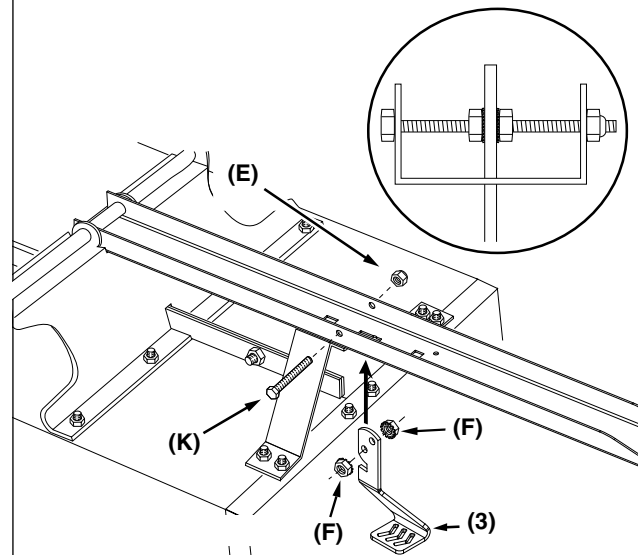

Figure 13
STEP 13 (SEE FIGURE 13): Install the foot pedal (3) by inserting a 5/16" x 4" hex bolt (K) through one side of the tongue, a 5/16" SEMS hex nut (F), the foot pedal (3), a 5/16" SEMS hex nut (F), and the tongue. Secure with a 5/16" nylock nut (E). Be sure to center the foot pedal on the bolt between the two SEMS nuts as shown below.